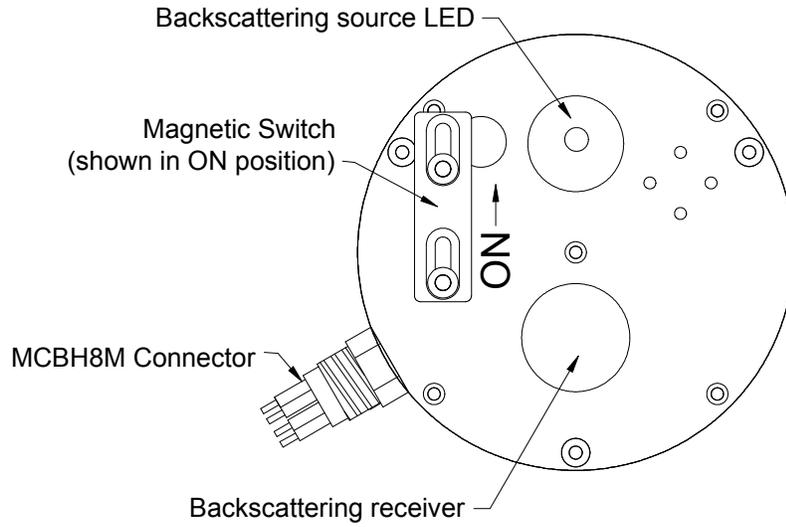

Figure 1 Front View of Backscattering (Beta) Endcap
- 28) To start a cast when **c-Beta** is asleep and disconnected from the computer, move the magnetic switch to the on position (see Figure 1 on page 2).